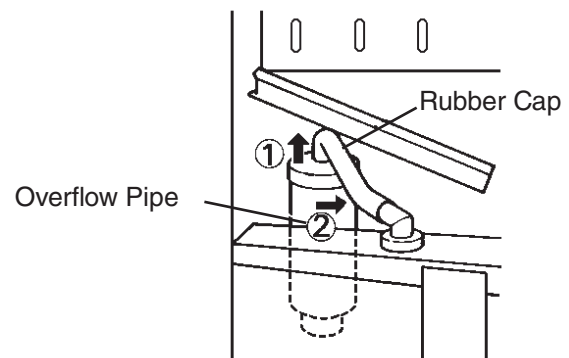

Fig. 16
- 7) Remove the rubber cap covering the overflow pipe in the water tank. Remove the overflow pipe by turning it counterclockwise. Allow the water tank to drain. See Fig. 16.
- 5) Remove the rubber cap covering the overflow pipe in the water tank. Remove the overflow pipe by turning it counterclockwise. Drain the water tank. See Fig. 16. After the water tank has drained, replace the overflow pipe and rubber cap in their correct positions.